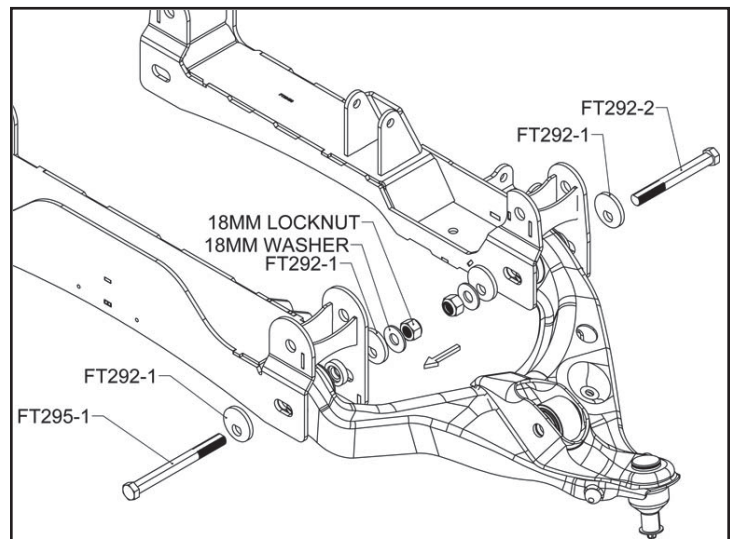

FIGURE 42 - STEP 40
40. Locate the Alignment cam kit (FT295). Locate the factory control arms. Install the lower control arms into the Fabtech crossmembers using the hardware in the cam kit (FT295). Torque the cam bolts at 200 ft-lbs after alignment. **SEE FIGURE 42**